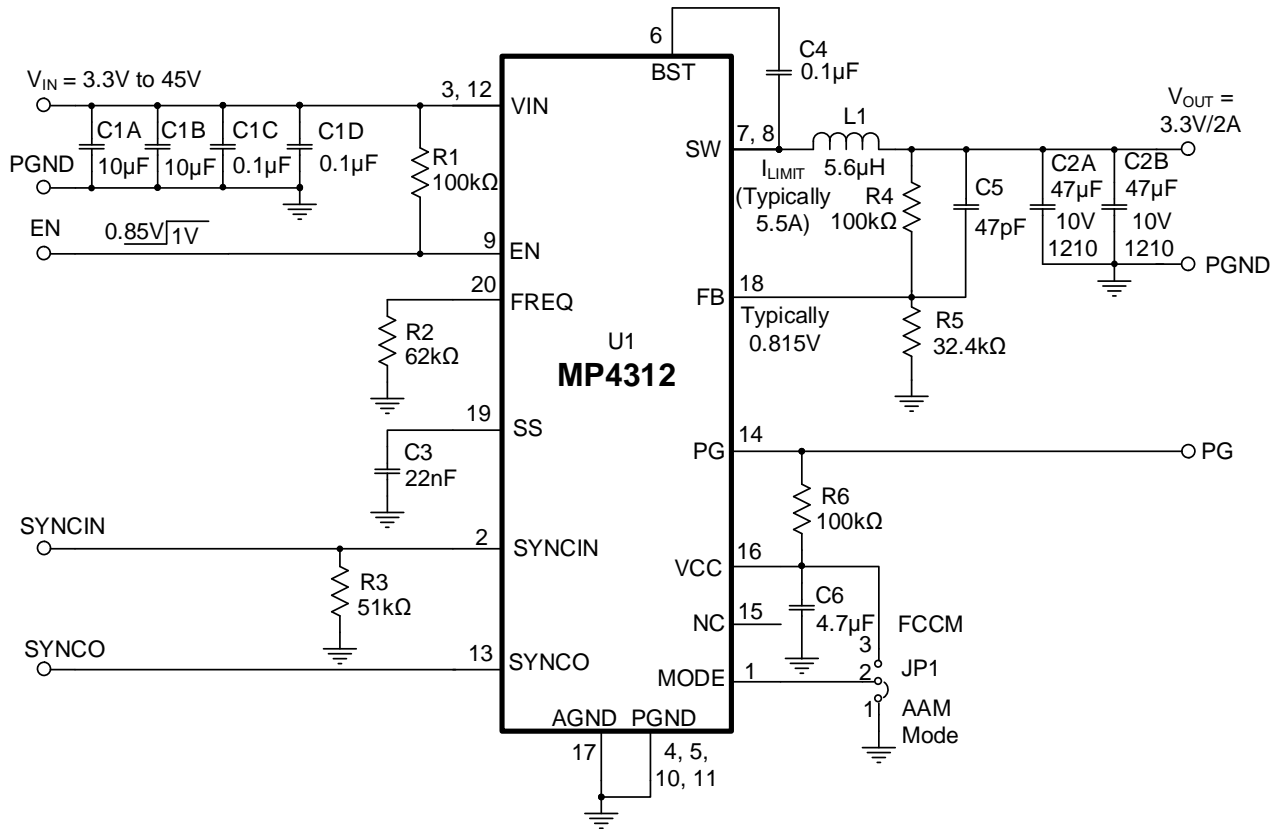

Figure 10: Typical Application Circuit (V_{OUT} = 3.3V, f_{sw} = 470kHz)
10) The recommended PCB layout is based on Figure 10 on page 34.